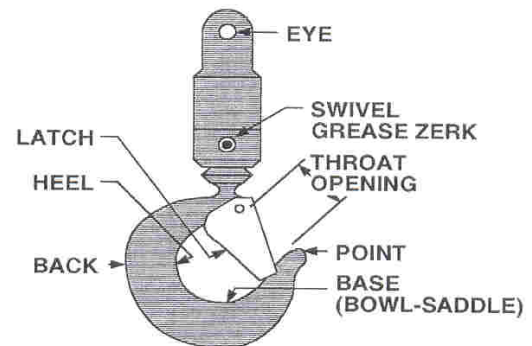

Figure 11.3: Components of a hook swivel
- Regular lubrication of the swivel bearings is extremely important and is normally applied by way of a grease zerk located on the swivel (Figure 11.3).